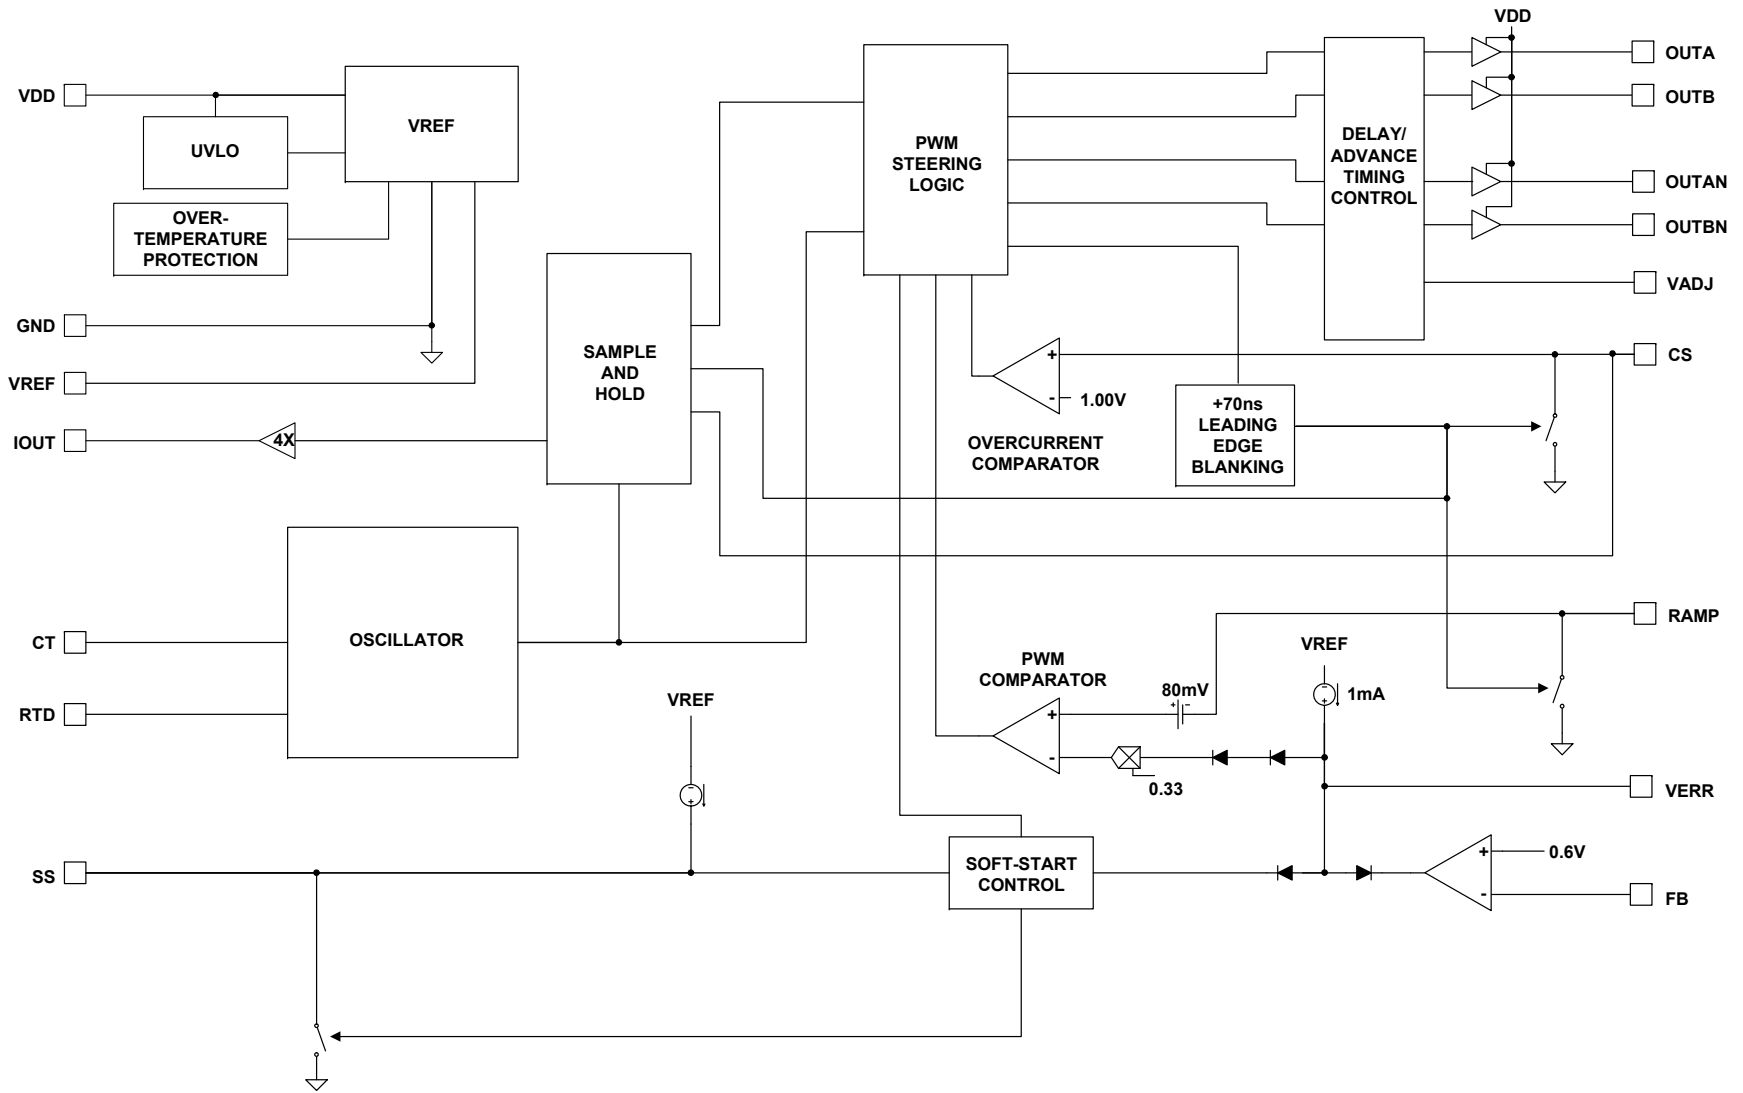
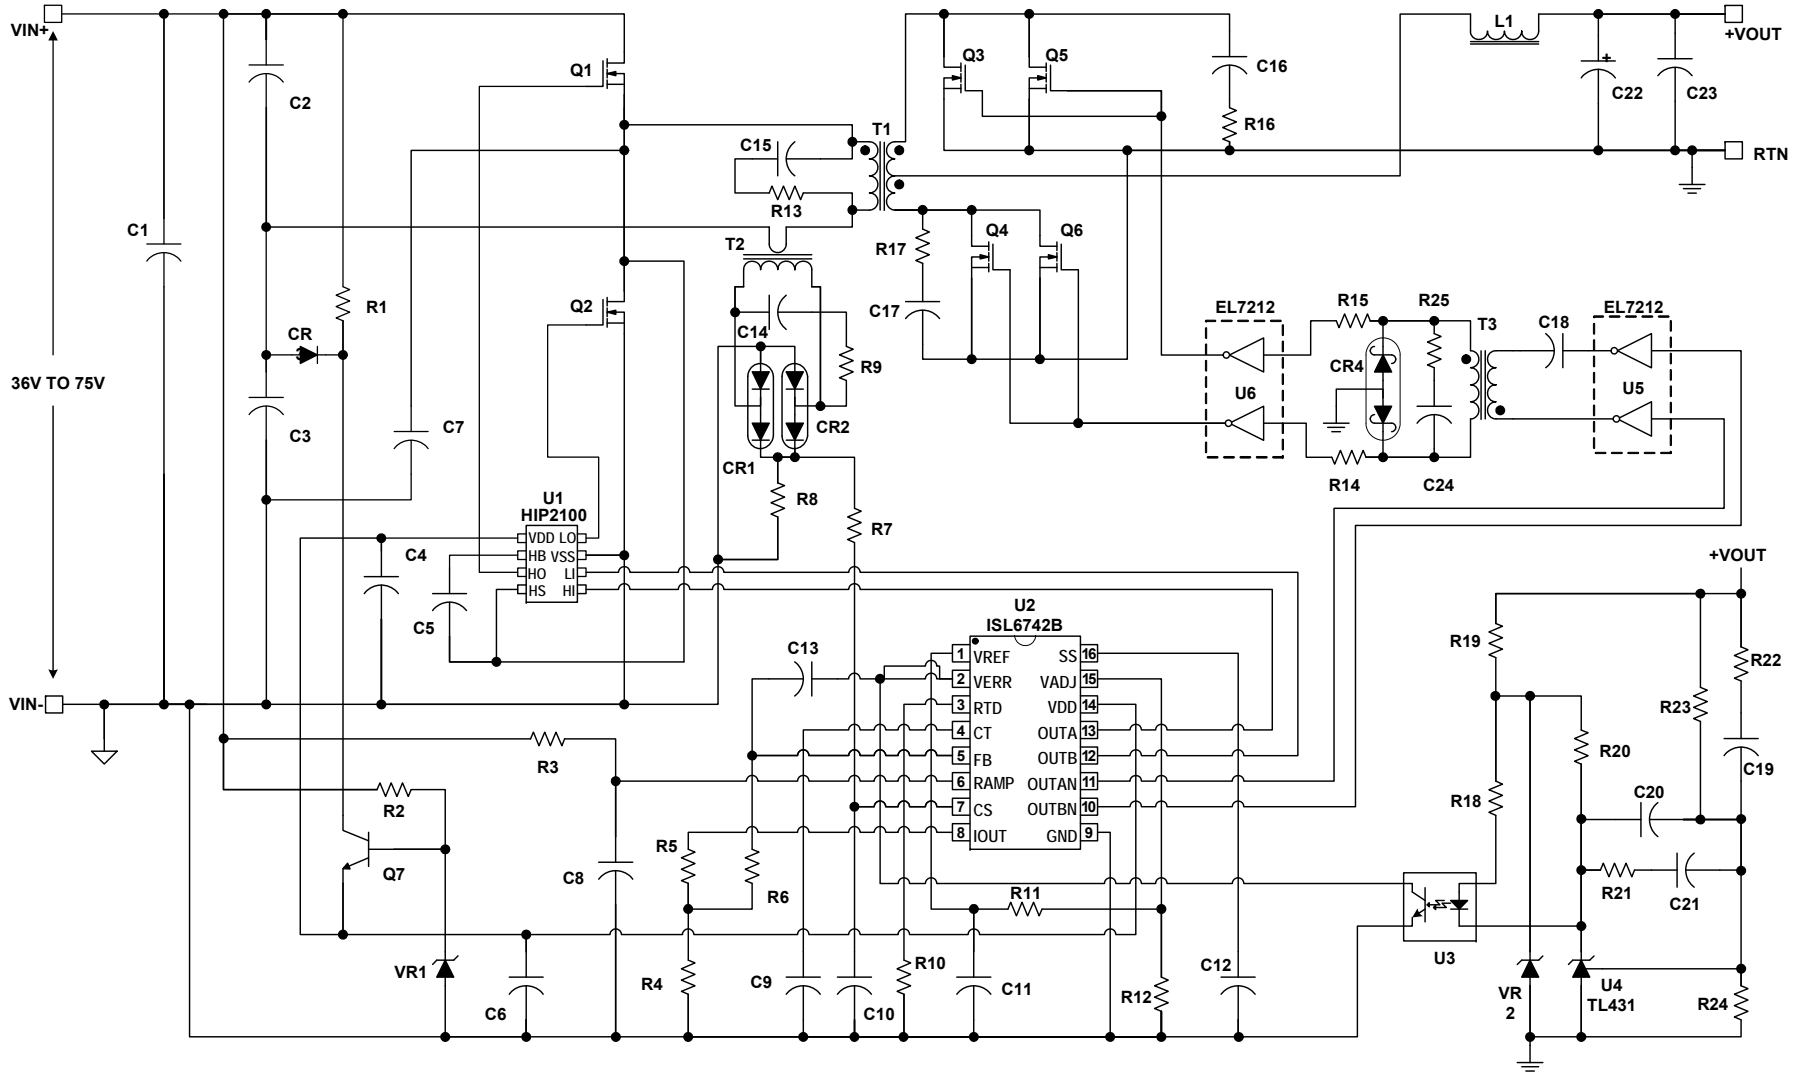
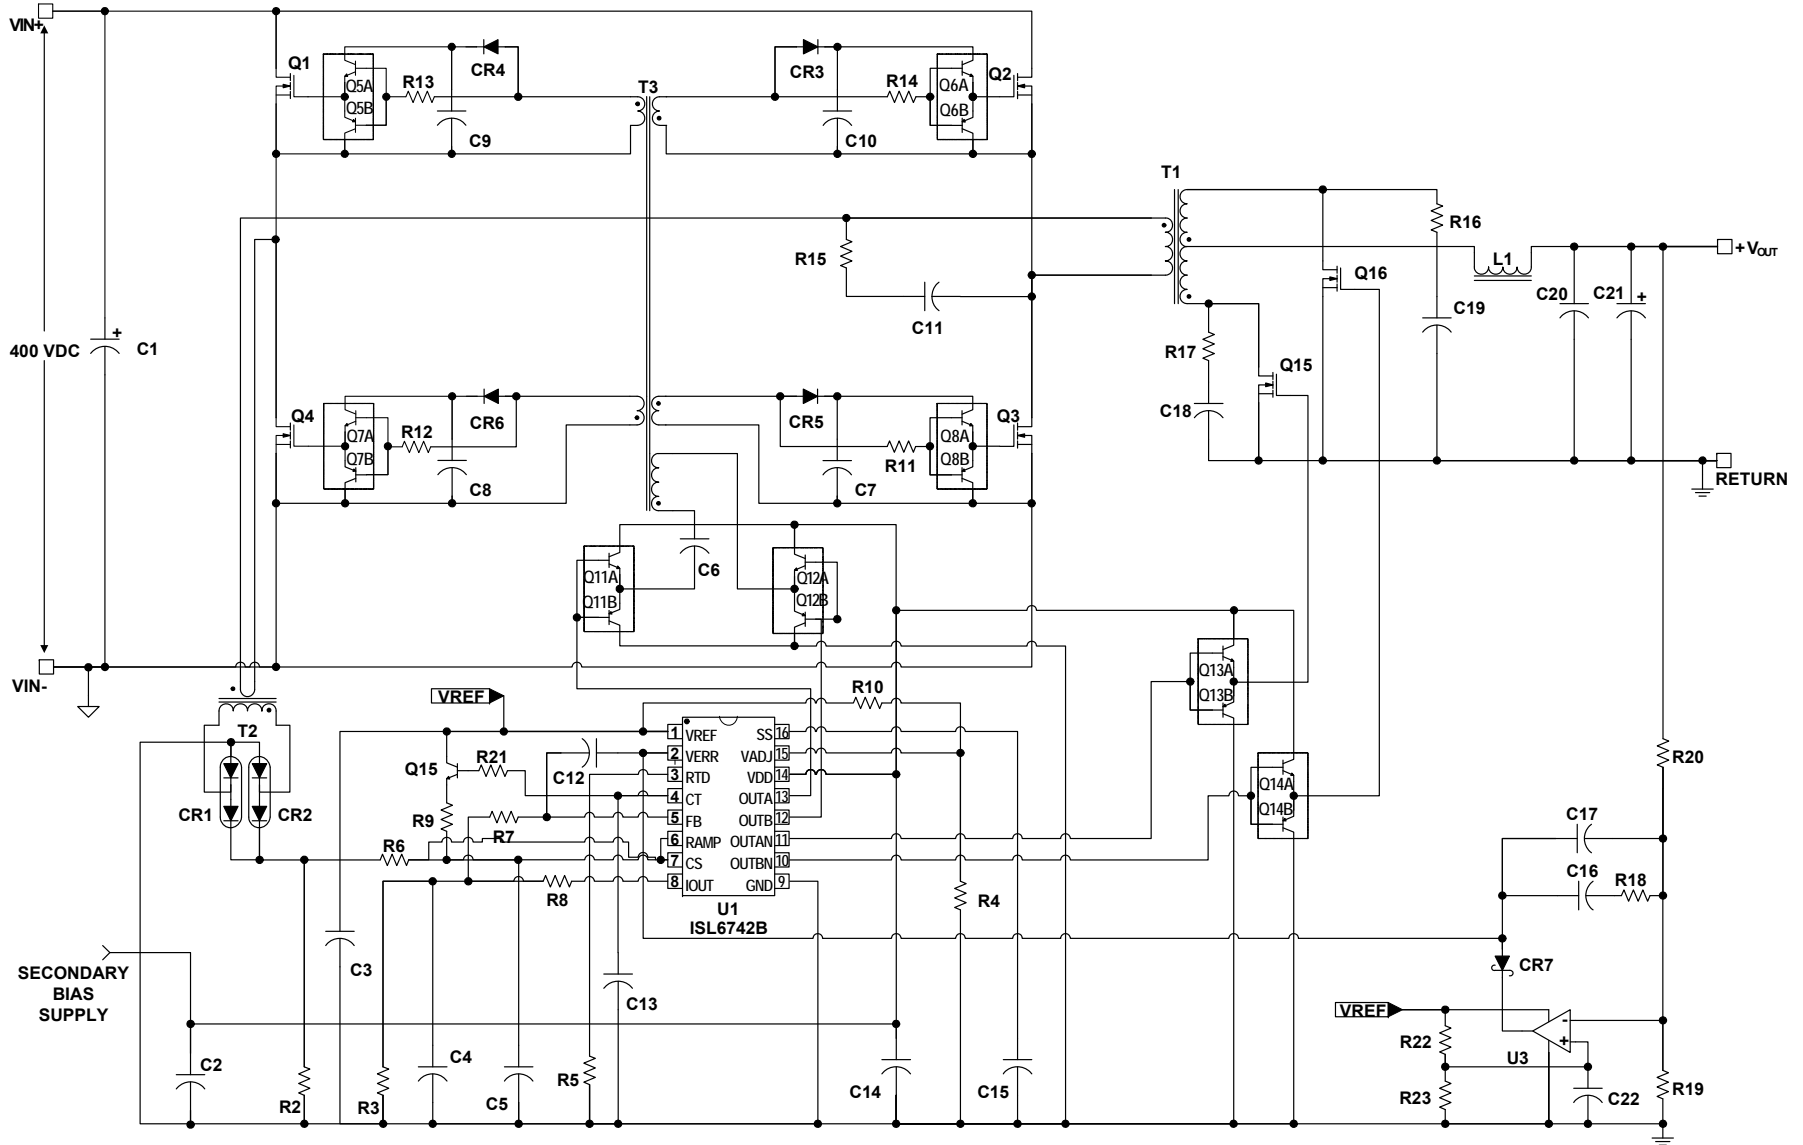

FIGURE 1. FUNCTIONAL BLOCK DIAGRAM
FIGURE 2. TYPICAL APPLICATION - TELECOM PRIMARY SIDE CONTROL HALF-BRIDGE CONVERTER WITH SYNCHRONOUS RECTIFICATION
FIGURE 3. TYPICAL APPLICATION - HIGH VOLTAGE INPUT SECONDARY SIDE CONTROL FULL-BRIDGE CONVERTER
**Electrical Specifications** Recommended operating conditions unless otherwise noted. Refer to Figure 1 on page 5, Figure 2 on page 6 and Figure 3 on page 7. 9V < VDD < 16V, RTD = 10.0k $\Omega$ , CT = 470pF,  $T_A$  = -40 $^{\circ}\text{C}$  to +105 $^{\circ}\text{C}$ , Typical values are at  $T_A$  = +25 $^{\circ}\text{C}$ . **Boldface limits apply across the operating temperature range, -40 $^{\circ}\text{C}$  to +105 $^{\circ}\text{C}$**
**Electrical Specifications** Recommended operating conditions unless otherwise noted. Refer to Figure 1 on page 5, Figure 2 on page 6 and Figure 3 on page 7.  $9V < VDD < 16V$ ,  $RTD = 10.0k\Omega$ ,  $CT = 470pF$ ,  $T_A = -40^\circ C$  to  $+105^\circ C$ , Typical values are at  $T_A = +25^\circ C$ . **Boldface limits apply across the operating temperature range,  $-40^\circ C$  to  $+105^\circ C$**  (Continued)